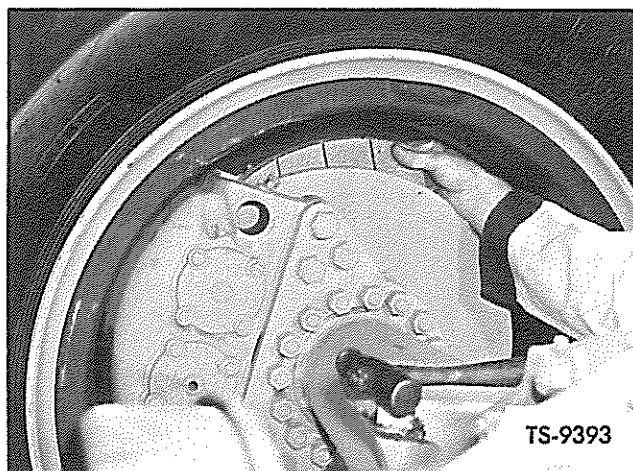

Fig. 9. Install New Brake Lining
- along contour of disc and seat against retaining pin as shown in Figure 9.